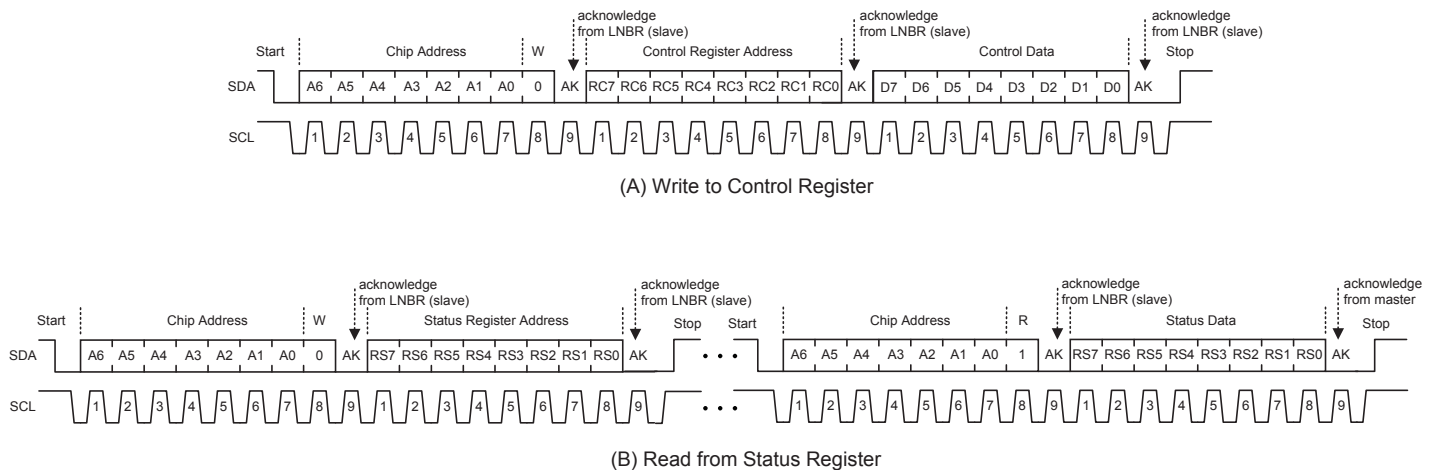

Figure 6. I2C™ Interface Read and Write Sequences. (A) for the I2C™ Write cycle and (B) for the I2C™ Read cycle.
**AK Bit During a Write Sequence** When the master sends control data (writes) to the A8304 there are three instances where AK bits are toggled by the A8304. First, the A8304 uses the AK bit to indicate reception of a valid seven-bit chip address plus a read/write bit (R/W=0 for write). Second, the A8304 uses the AK bit to indicate reception of a valid eight-bit Control register address. Third, the A8304 uses the AK bit to indicate reception of eight bits of control data. This protocol is shown in figure 6(A).
**AK Bit During a Read Sequence** When the master reads status data from the A8304 there are four instances where AK bits are sent—three sent by the A8304 and one sent by the master. First, the A8304 uses the AK bit to indicate reception of a valid seven-bit chip address plus a read/write bit (R/W=0 for write). Second, the A8304 uses the AK bit to indicate reception of a valid eight-bit Status register address. Third, the A8304 uses the AK bit to indicate reception of a valid seven-bit chip address plus a read/write bit (R/W=1 for read). Finally, the master uses the AK bit to indicate receiving eight bits of status data from the A8304. This protocol is shown in figure 6(B).
**I2C™ Start and Stop Conditions** The I2C™ Start condition is defined by a negative edge on the SDA line while SCL is high. Conversely, the Stop condition is defined by a positive edge on the SDA line while SCL is high. The Start and Stop conditions are shown in figure 6. It is possible for the Start or Stop condition to occur at any time during a data transfer. If either a Start or Stop condition is encountered during a data transfer, the A8304 will respond by resetting the data transfer sequence.
**I2C™ Write Cycle Description** Writing to the A8304 Control register requires transmission of a total of 27 bits—three 8-bit bytes of data plus an Acknowledge bit after each byte. Writing to the A8304 Control register is shown in figure 6(A). Writing to the A8304 Control register requires a chip address with R/W=0, a Control register address, and the control data, as follows:
the A8304 Status register requires a chip address with R/W=0, a Status register address, an I2C™ Stop condition, an I2C™ Start condition, a “repeated” chip address with R/W=1, and finally the status data from the A8304. Reading from the A8304 Status register is shown in figure 6(B).